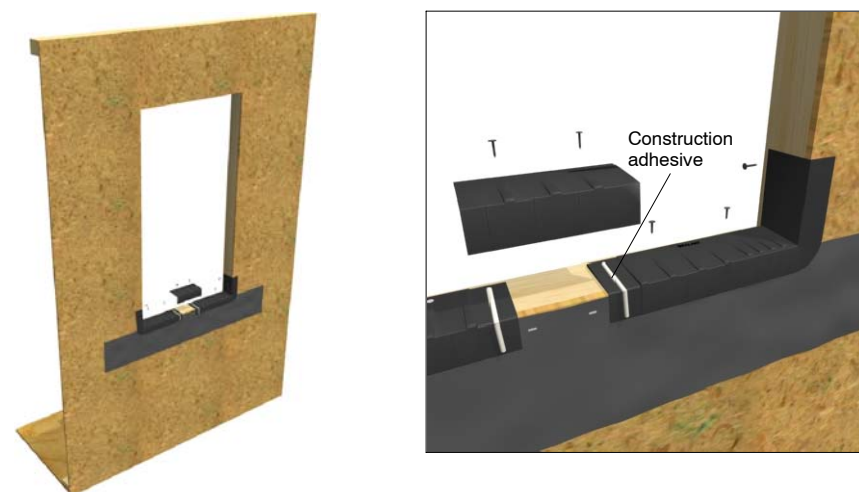

Figure 16: Install center piece and apply adhesive
3. Cut center sections to size. Center sections must overlap corner pieces by at least 1/2” (13). See the **Cutting, Lapping and Sealing Details** section for more detail. Place a bead of construction adhesive on the flanges of the corner pieces. Press center section in place and fasten as shown in figure 16.